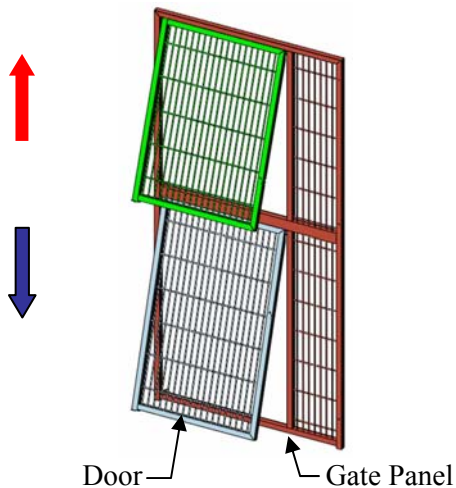

Figure 14
2. Locate the Gate Panels and remove the Door from each Gate Panel. Slightly open and lift up on the door. Once the Door clears the hinge pin at the bottom, pull the bottom of Door toward you (**Figure 14**). Pull the top of the Door down until the top of the Door clears the top hinge pin.